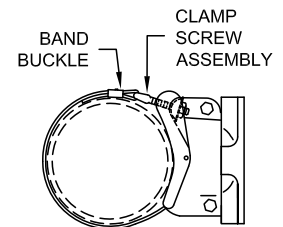

Figure 6
1. Place Female Clamp Half on mast arm with Clamp Screw Assembly as shown in Figure 1. Orient Clamp Kit so Clamp Screw Assembly will be on top side of arm as shown in Figure 6. Place Clamp Screw Assembly in pawl of Female Clamp as shown in Figure 1 allowing two to three (2-3) threads exposed beyond the nut on the Clamp Screw Assembly. (Figure 2)
6. Back off nut on Clamp Screw Assembly until it is flush with clamp screw end. Insert Clamp Screw Assembly on Clamp Pawl. Rotate Clamp Screw Assembly so it is on the side of the mast arm with the Clamp Screw Assembly at the top. (Figure 6).